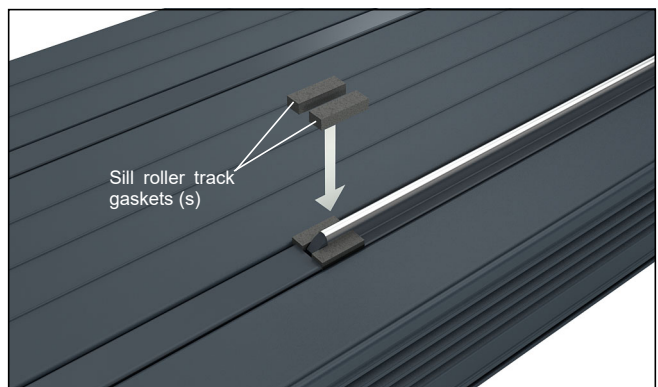

Figure 32
10. Place sill roller track gaskets over the holes so that the foam on the bottom of the panel will seal against the roller track gaskets. See figure 32.